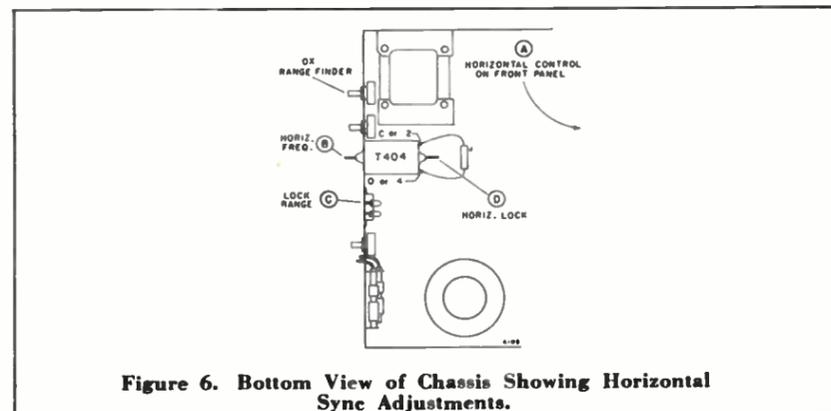
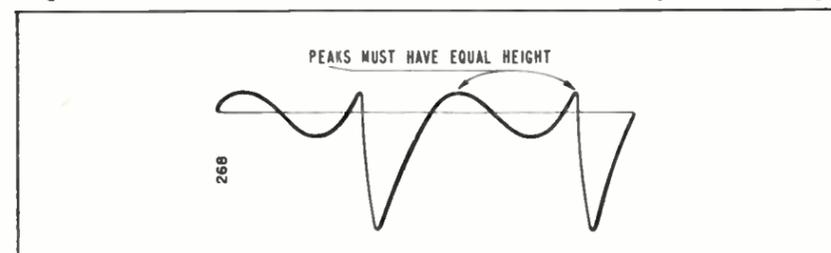

Figure 6. Bottom View of Chassis Showing Horizontal Sync Adjustments.
Figure 7. Horizontal Oscillator Waveform.
3. **IMPORTANT:** Connect oscilloscope high side through a 10 mmfd. condenser to terminal marked "C" or "2" on the horizontal blocking transformer T404. (See figure 6.) It is important to use short leads and a very low capacity condenser (at least 10 mmfd.) to avoid loading the circuit and thus distorting the waveform.
5. Adjust the HORIZONTAL LOCK slug (D) (see figure 6) until the oscilloscope waveform pattern appears as in figure 7. The rounded and pointed peaks of the waveform must have equal height. The picture must be kept in sync to obtain the proper oscilloscope waveform pattern. Keep the picture in sync by adjusting the HORIZONTAL FREQUENCY (B) and/or the LOCK RANGE trimmer (C). If the picture still will not sync, check for a defective tube, components, or wiring, before continuing further. See Service Hints on Horizontal Instability And Tearing.